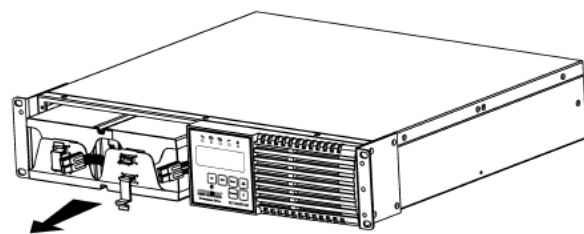

FIG. 4
10. Grasp the battery pull tab and gently pull the battery module out of the UPS and set it aside. (FIG. 4)